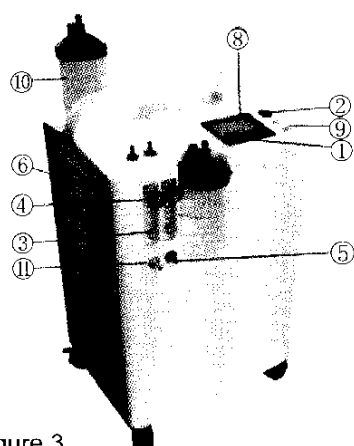

Figure 3
8.1.2 Total 6 indicating lamps and their indication for the machine, which is shown as Figure 3, are as follows: